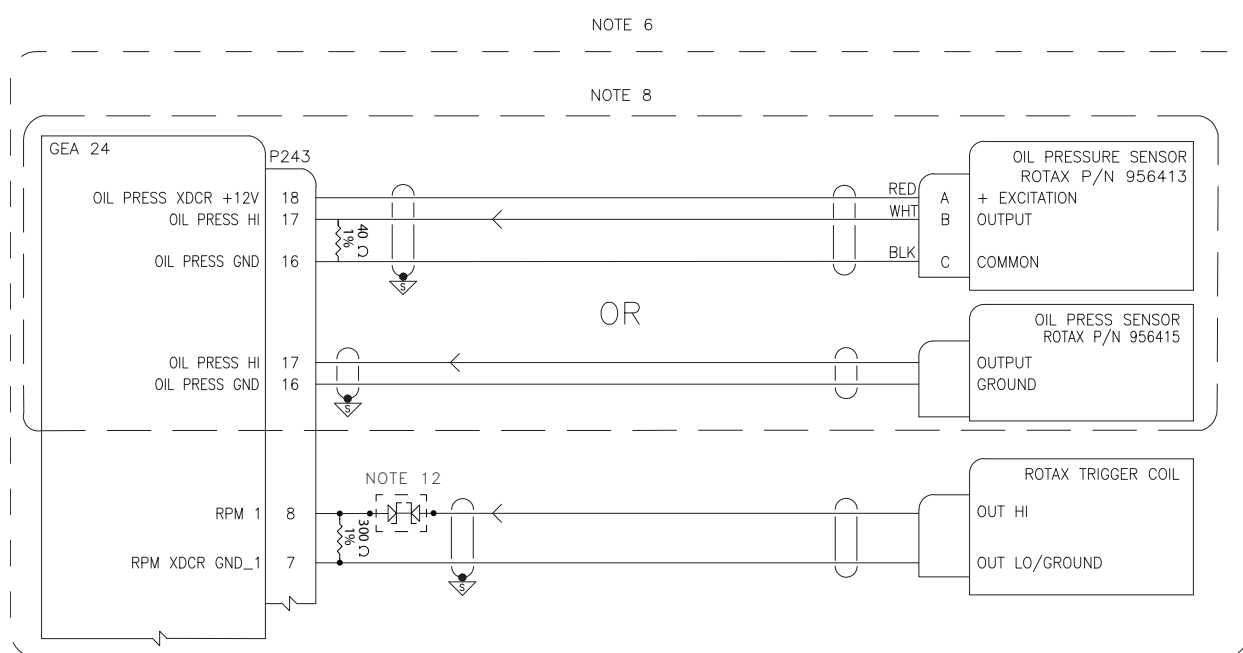

Figure G-2.2 GEA 24 - Rotax 912/914 Sensor Wiring Examples, Page 2 of 2
12. USE GARMIN P/N 682-00011-00 BI-DIRECTIONAL DIODE ON RPM 1 INPUT AND 300 Ω RESISTOR BETWEEN PINS 7 AND 8 AS SHOWN IN FIGURE G-2.2.